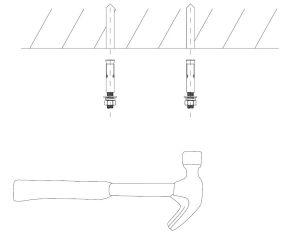

Figure 4
2. Use a hammer to put the expansion screws into the holes (Figure 4).